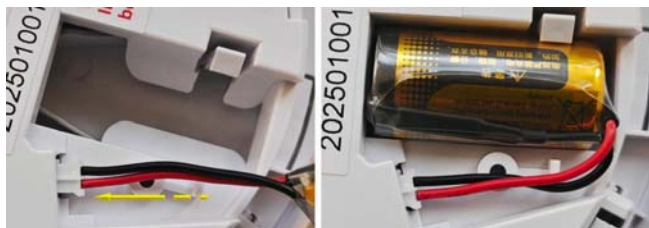
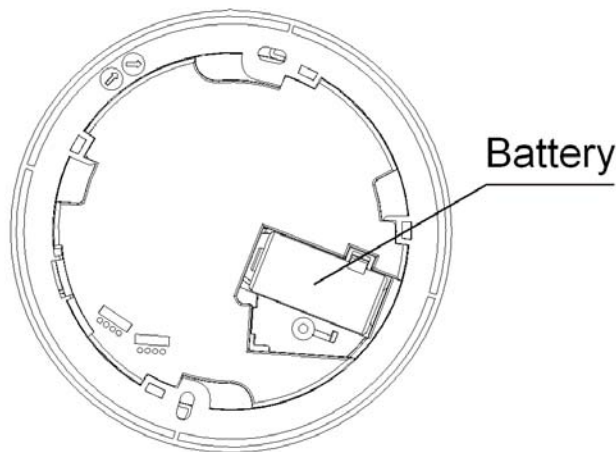

Fig. 3 – Insert battery connector
Fig. 4 – Battery compartment
1. Insert the connector of battery into the socket, see Fig.3. And fit the battery into the battery compartment on the underside of the heat alarm, see Fig. 4.